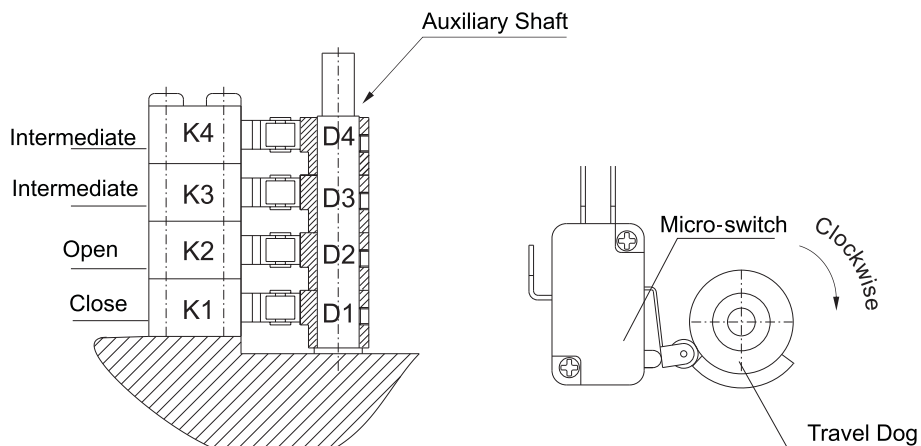

Fig. 6
**2. Adjustment of intermediate position switch (Fig. 6)**